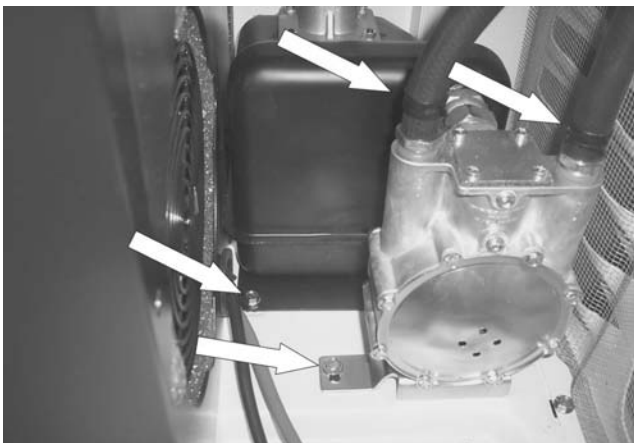

Figure 173.
10. **Remove fuel regulator:** Remove the two fuel hoses at the top of the regulator. Using a 10mm socket remove one 10mm bolt from the base of the plenum and one 10mm bolt from the base of the fuel regulator. Flex the enclosure side out to allow for room to remove the regulator assembly. See Figure 173.